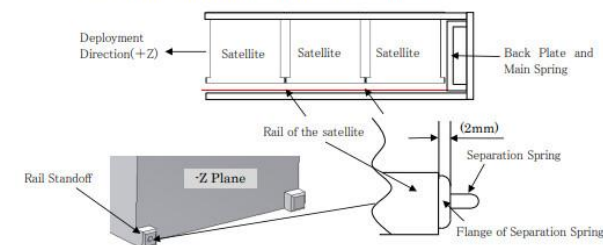

Figure G-1 Overview of Multiple Satellites with Separation Spring
- For the installation of the separation spring, the flange of the separation spring shall closely contact the -Z end face of the satellite rail, as shown in Figure G-1. The thickness of the flange is 2 mm.